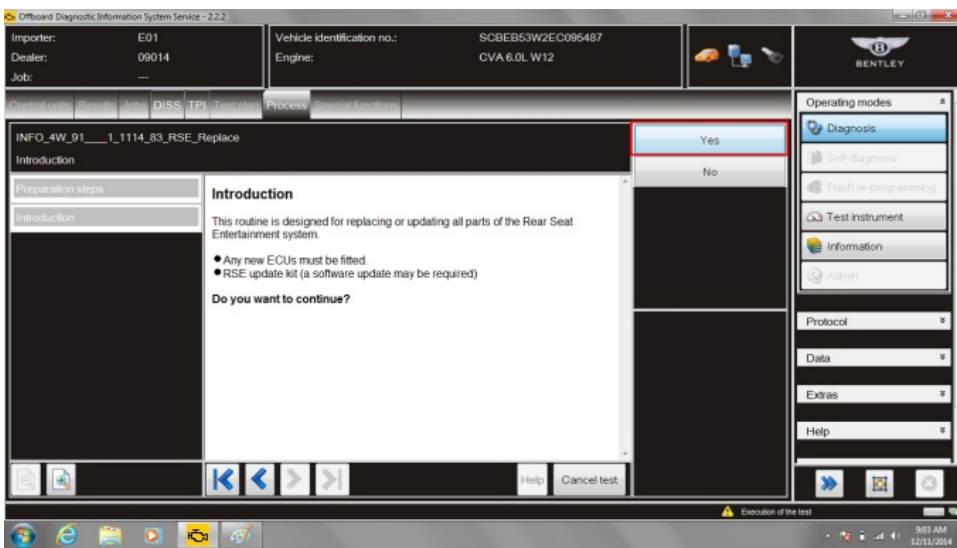

Figure 13
21. Select Yes at *Introduction* screen (see Figure 13)